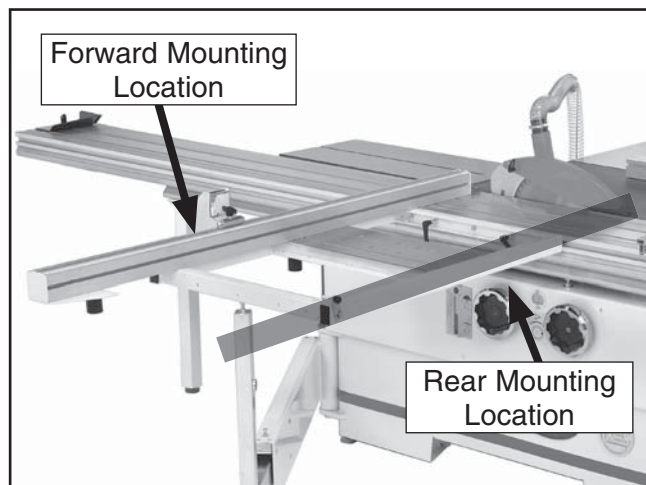

Figure 71. Crosscut fence mounting points.
1. Install the crosscut fence in the forward mounting location shown in **Figure 71** and lock it in place.
1. Install the crosscut fence in the rear mounting points shown in **Figure 71** and lock it in place.